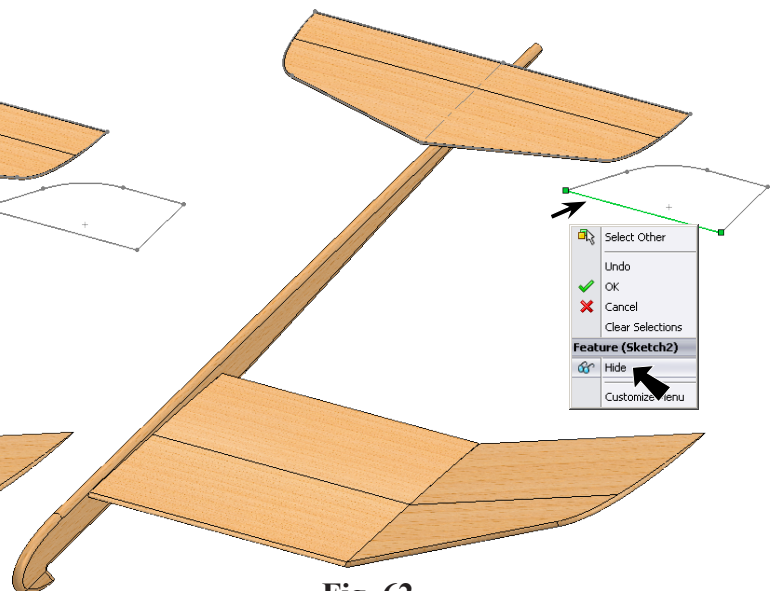

Fig. 62
Step 6. **Right click Sketch2** in graphics area and click **Hide**  on the Content menu, **Fig. 62**.